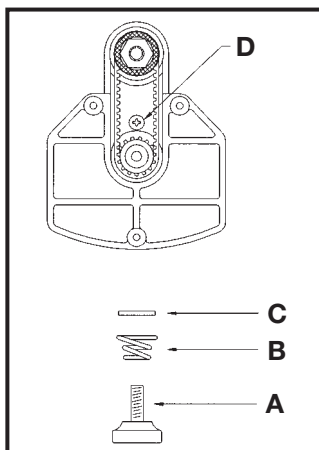

Fig. 9
5. Secure the motor to the base (see Fig. 9), with the thumbscrew (A), spring (B), and washer (C).
6. Locate the #6-32  $\times \frac{3}{8}$ " screw from the hardware package. Use a phillips screwdriver to install this screw (D), as shown in Fig. 9. Tighten securely.